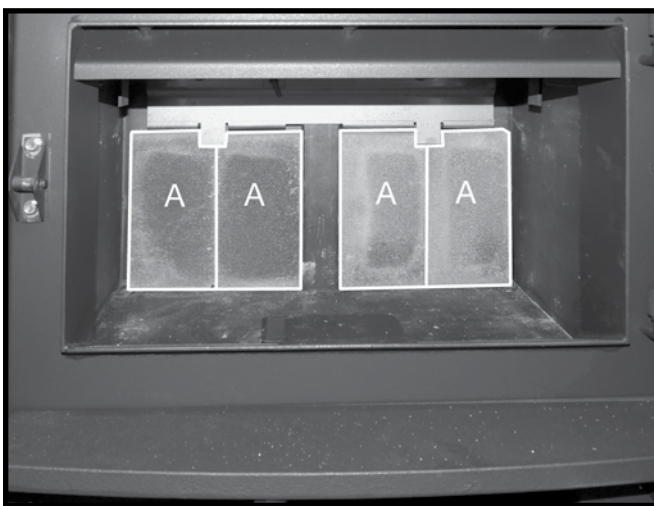

Figure 25: Remaining rear wall firebricks in place.
3. Repeat steps 1 & 2 for the placement of the other "A" firebricks on the rear wall (Figure 25).